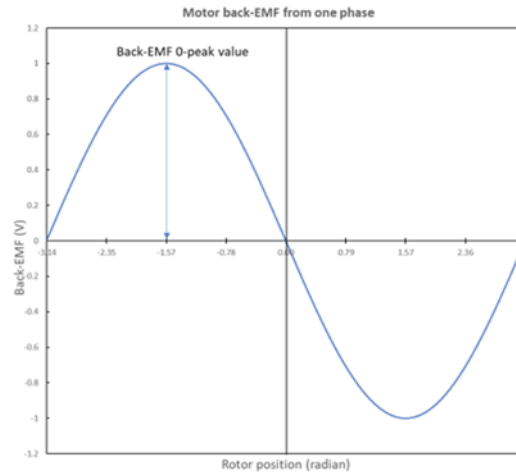

Figure 4. Back EMF Amplitude in a Stepper Motor.
13. **Back EMF Amplitude.** The back-EMF amplitude is the amplitude 0-peak in Volt that can be measured at one phase of the motor, when the motor is back-driven at a given speed/step frequency (Figure 4).